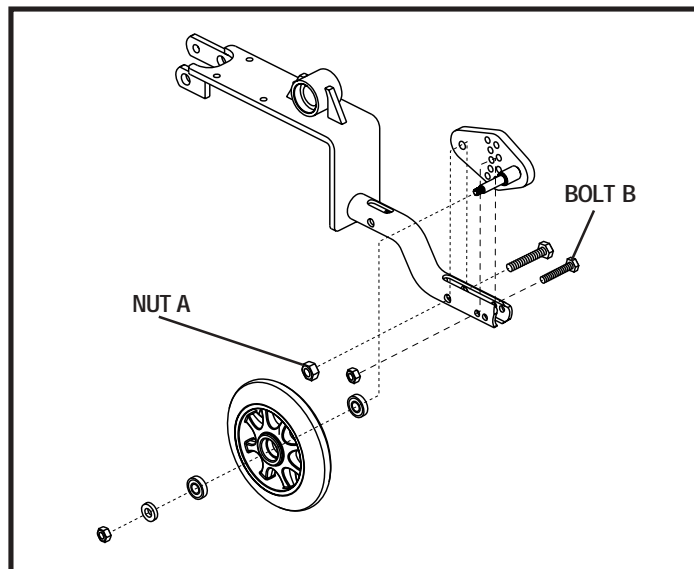

Figure 19. Anti-Tip Wheel Assembly
1. Loosen nut A. See figure 19.